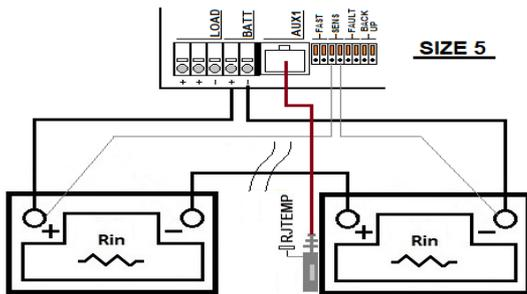

Fig.5
- Battery Sense connection YES; (Fig.5)
The device can operate with or without the battery sense connections. If the battery sense cables is correctly connected as in Fig.5, the device automatically detects them and uses them for the battery internal resistance measurements. In such case the battery cables resistance measurement information (HR40102) is neither needed nor used. This configuration is the one which ensures the maximum measurement accuracy because it is not influenced by the battery cables resistance.